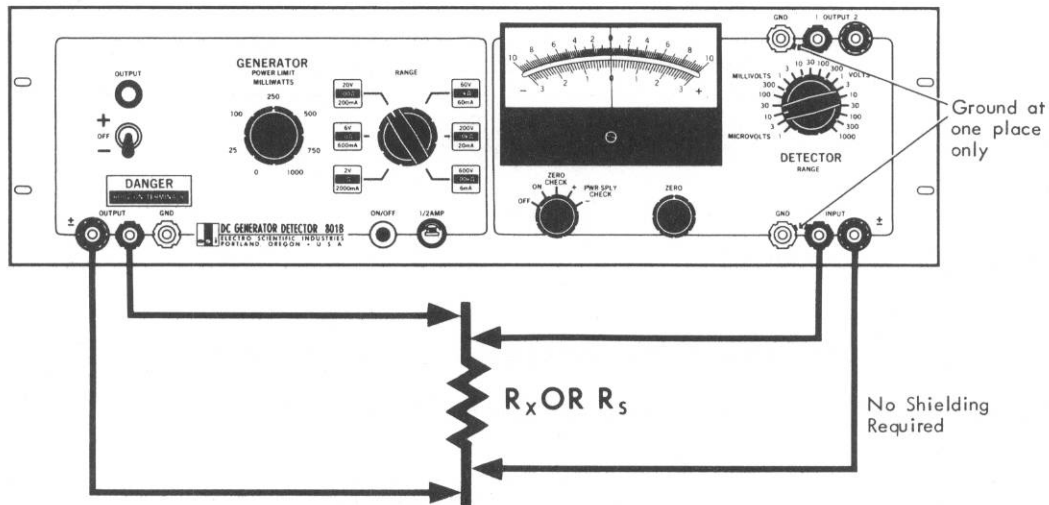

Figure 2-5. Low Resistance Measurement
To measure the approximate value of a very low resistance, such as a switch or relay contact or a piece of wire, use the circuit shown in Figure 2-5.
4. Connect the unknown resistor  $R_x$  in the circuit of Figure 2-5.
1. Connect a known standard resistor, having a value  $R_s$  not greater than 1000 ohms, in the circuit of Figure 2-5.